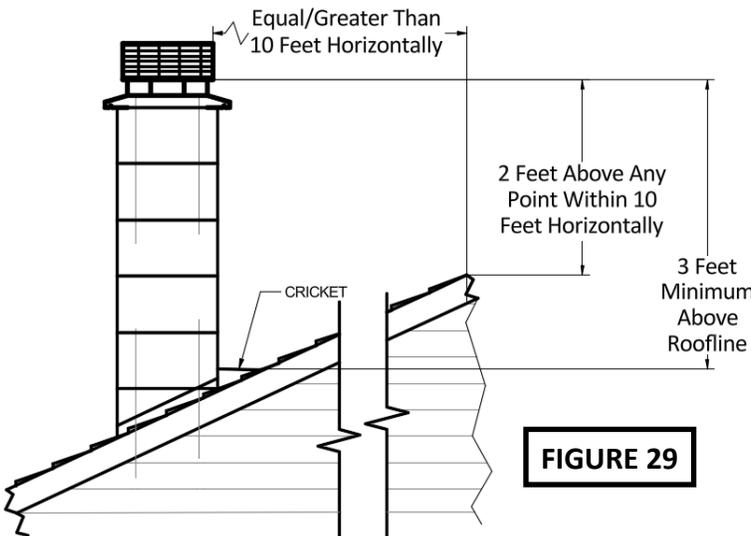

FIGURE 29
- If the horizontal distance from the opening of the chimney to the roof ridge is more than 10' then a chimney height "work point" is established on the roof surface 10' horizontally from the opening of the chimney. The top of the chimney must be at least 2' above this work point. (Figure 29)